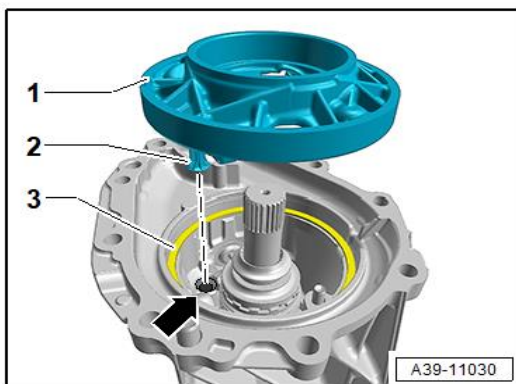

Figure 20. Shim and carrier installation.
14. Insert the shim (Figure 20, position 3).
Insert the gear carrier (Figure 20, position 1) into the housing together with the coupling sleeve. Pay attention that the shock absorber (Figure 20, position 2), and the centering pin are correctly positioned to the housing (Figure 20, arrow).